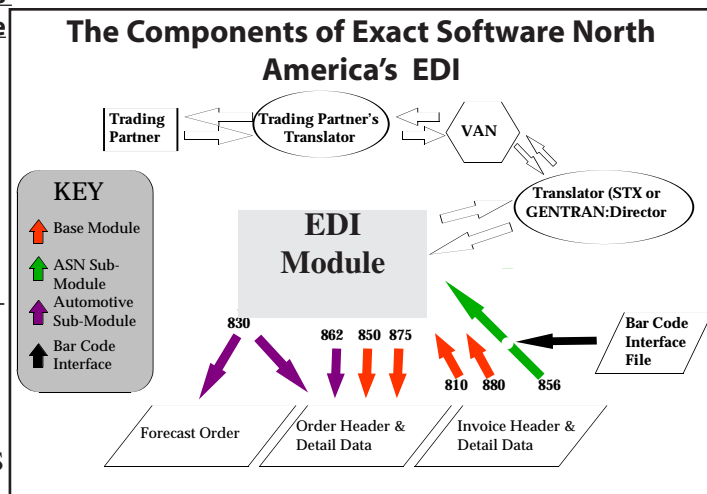

Figure 5 EDI Work Flow
Figure 5 shows the EDI Module as a rectangle in the center. In reality, the Exact Software North America's EDI module is composed of the Base Module and a collection of Sub-Modules. Each of these are represented by a different shade of gray arrows. The Base Module is the heart of the Exact's EDI solution. It is a required component that contains the base integration logic, cross-reference files, and the standard system tools used through all other modules. Four documents are supported in the base module: inbound ANSI orders (850), inbound UCS (grocery) orders (875), outbound ANSI invoices (810), and outbound UCS (grocery) invoices (880). The Exact Software North America's EDI system does not create Functional Acknowledgments as these are automatically generated by the translators.